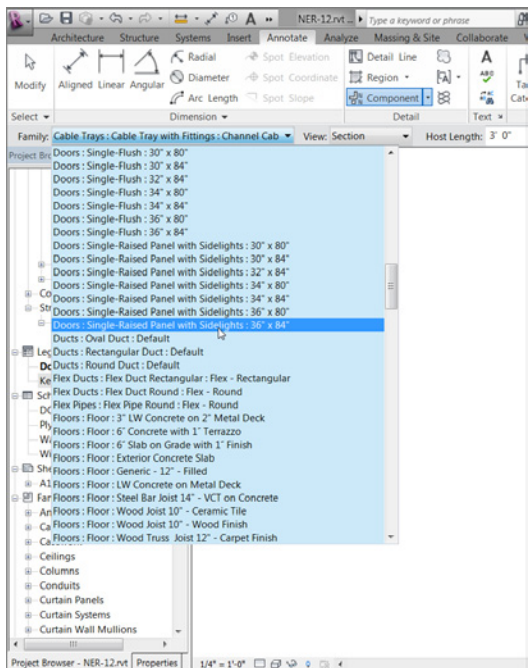

FIGURE 11.42: Changing the options for the legend
3. In the Options bar, choose Doors : Single-Raised Panel with Sidelights : 36"×84", as shown in Figure 11.42.